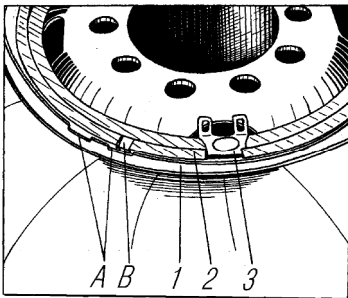

Fig. 52. Position of Lock and Bead Rings of 254Г-508 and 400Г-508 Wheels:
5. Mount the bead and lock rings, having aligned stamped-out mark «B» (Fig. 52) on the lock ring of the constant-pressure tires with one of slots «A» on the bead ring and having ensured that the cut of bead ring coincides with the limiter on the rim.